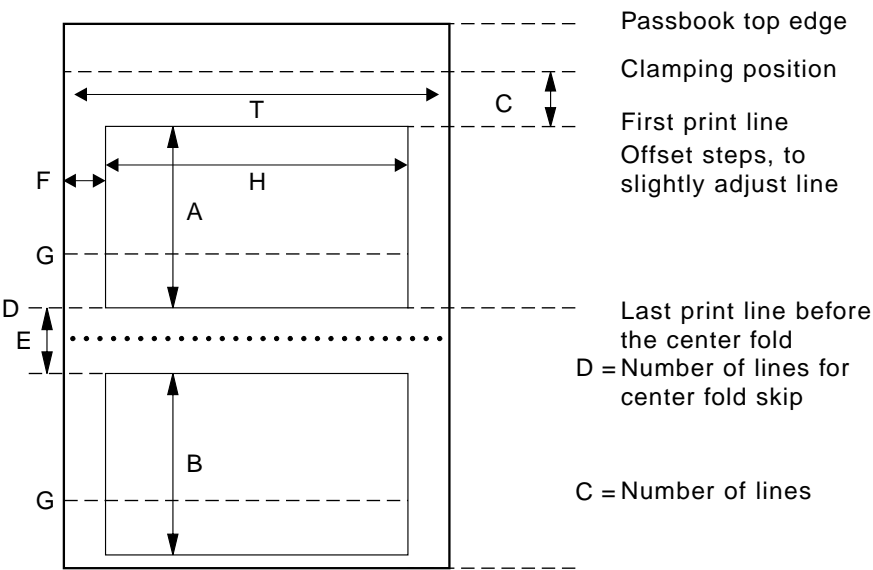

Figure 10. Passbook Dimensions for IBM 4720 Printer Customization
- BKWIDTH** Is an optional keyword to define the book width of the open document in millimeters (mm). The allowed values are from 127 to 212. The default is **210** (refer to 'T' in Figure 10 on page 312).
- FOLDBEG** Is an optional keyword to define the last line or character position before the center-fold skip for horizontal or vertical passbooks (refer to 'D' in Figure 10 on page 312).
- Is an optional keyword to define the total number of lines or character positions skipped for horizontal fold or vertical fold passbooks. (See dimension 'E' in Figure 10 on page 312.)
- HRZOFFS** Is an optional keyword to define the horizontal character offset. That is, the number of characters that the first print character is to be offset beyond the minimum distance from the left edge. (See dimension 'F' in Figure 10 on page 312).
- LINELEN** Is an optional keyword to define the maximum line length (number of characters being written in one line). (See dimension 'H' in Figure 10 on page 312).
Is an optional keyword to define the page size, that is, the number of print lines per page. (See dimension 'A' and 'B' in Figure 10 on page 312.)
Is an optional keyword to define the number of lines between the first printable line and the line occupied by the tractor clamping mechanism. (See dimension 'C' in Figure 10 on page 312.)
**WRNLINE** Is an optional keyword to define the number of the line at which an attention item is reported to the application. (See dimension 'G' in Figure 10 on page 312.) Allowed values are from 0 to the specified PAGESIZE. The default is **0**.